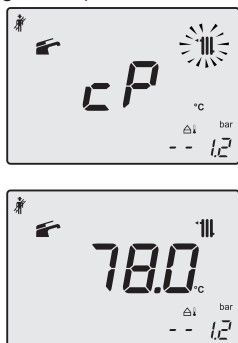

Fig. 10.26
- Press key 19 to vary the output in chimney sweep mode: when the LCD display displays the letters **cP** that alternate with the heating water temperature value (e.g.78), the "flue sweep function" is at maximum (eventually range rated) output in heating mode (Fig. 10.26).